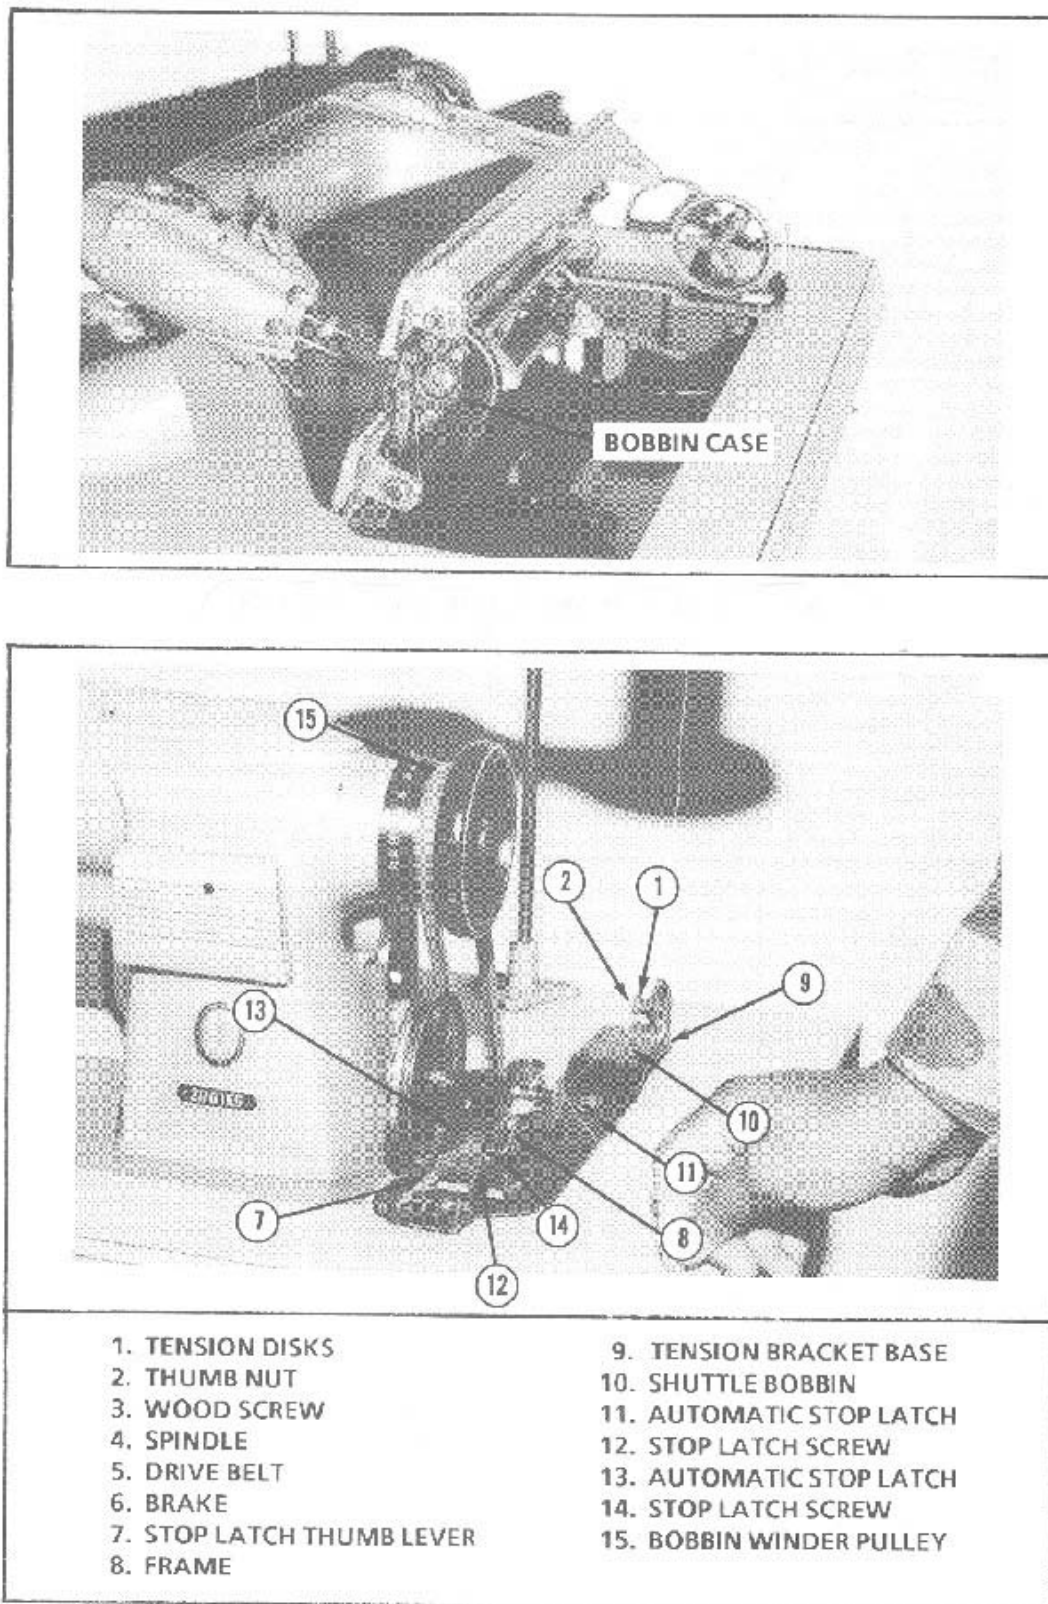

Figure 3-83
- (7) Push the bobbin winder pulley over against the drive belt as far as it will go, by pressing on the stop latch thumb lever. Force the automatic stop latch to catch and hold the bobbin winder pulley against the drive belt. (See Figure 3-83)
- c. Thread the bobbin case. (See Figure 3-83)
- (1) Hold the bobbin in the bobbin case, so that the slot in the edge is near the top.
- (2) Place the bobbin in the bobbin case.
- (3) Pull the thread over the top of the bobbin and away from you.
- (4) Place the thread under the bobbin tension spring and into the delivery eye. Pull the thread into the slot.